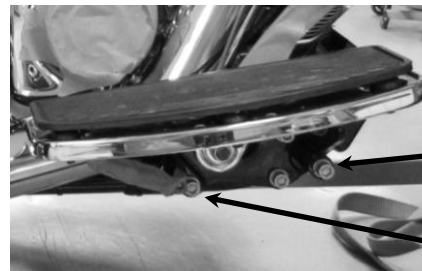

FIGURE 9
27. Insert the supplied floorboard spacer plate between the rear floorboard mount and the frame, then align the dowel pin and reinstall the allen bolt. Tighten to factory specifications. See **FIGURE 9**.